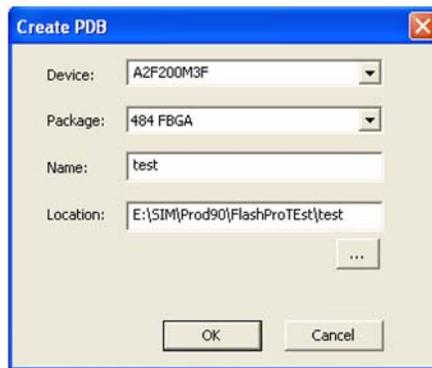

Figure 1-1 · Create PDB Dialog Box
2. Click **Create** to create a new PDB. Select the **Device** and **Package** for your SmartFusion device (as shown in Figure 1-1).